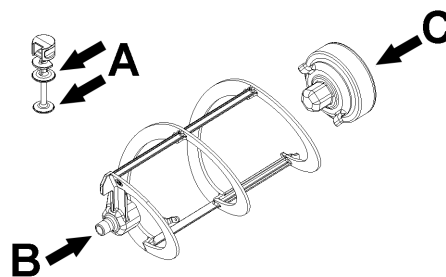
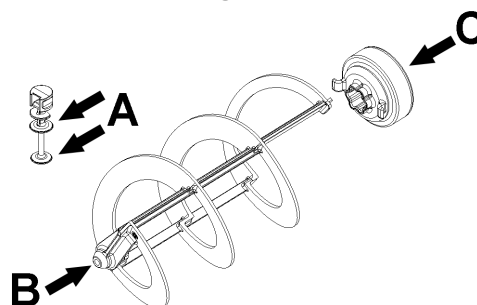

figure 19
figure 20
- 2 Lubricate the tap piston, the hexagonal joint and the mixer at the points indicated in figure 19 (B-Frozen 6) or figure 20 (B-Frozen 10), using only the grease that came with the machine
- 3 Reassemble the tap on the container in reverse order compared to that shown in figure 19 and figure 20.